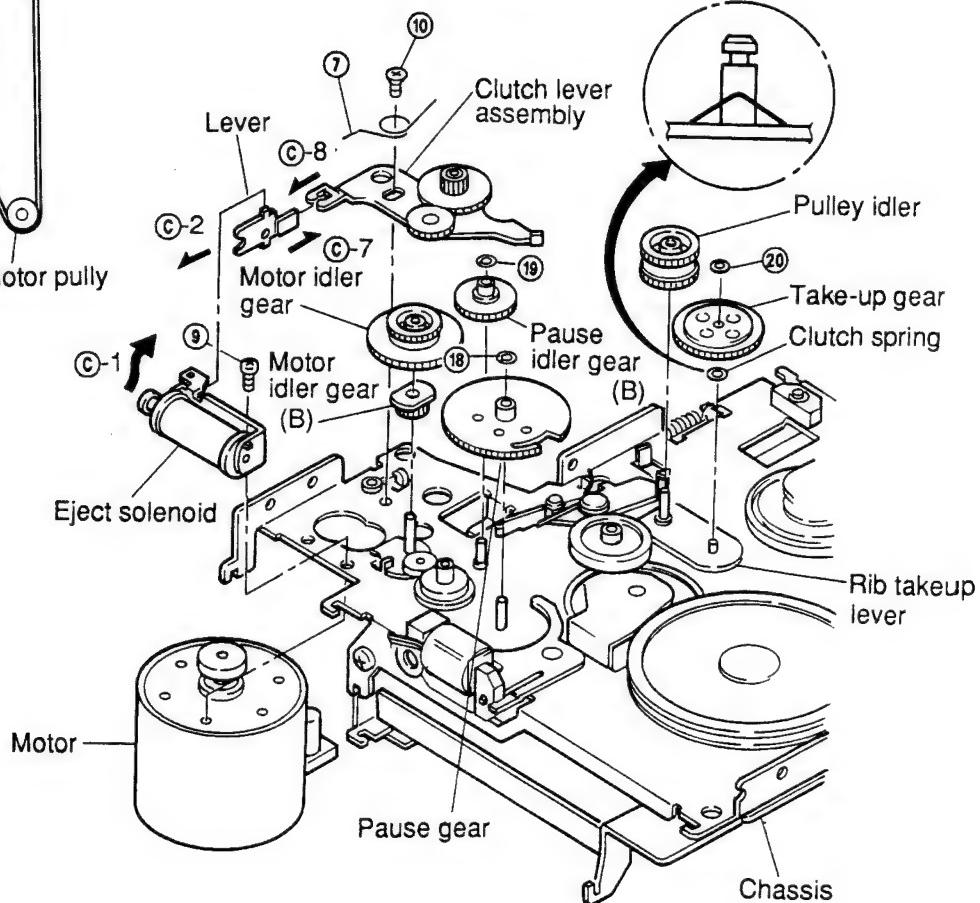

Figure 10
- (1) After removing the belt, remove spring ⑦ as shown in Figure 10.
- (3) Remove two screws ⑨ and ⑩, and remove the motor, taking care not to damage the motor idler gear. (Refer to Figure 10.)
- (4) Mount the new motor following the removal steps in the reverse order.
- (2) Remove screw ⑨ and remove the play solenoid as shown in Figure 10.
- (3) Align position ⑩-1 of the new solenoid with position ⑩-2 of the lever and fasten the screws as shown in Figure 10.
- (4) Lead the wire through the tube and solder it.
- (1) After removing the motor, remove the motor idler gear and the motor idler gear (B) and remove the clutch lever assembly as shown in Figure 10.
Note: When mounting the gears to the lever, apply grease (FLOIL 425A) to the position C-6 as shown in Figure 15. Align the position C-7 with the position C-8 and mount the clutch lever as shown in Figure 10.
- (1) Remove M1.2 lock washer (18) and remove the pause gear pulling it up from the stud of the chassis as shown in Figure 10.
- (2) Mount the new gear following the removal steps in the reverse order.
- (f-7) Replacement of the pause idler gear (B)
- (1) After removing the motor and the motor idler gear, remove M1.2 lock washer (19) and remove the gear by pulling it up from the stud of the chassis as shown in Figure 10.
- (2) Mount the new gear by following the removal steps in the reverse order.
- (1) After removing the belt and the pulley idler gear, remove M1.2 lock washer (20) by pulling it up from the stud of the rib take-up lever assembly as shown in Figure 10.
- (2) Remount the take-up gear following the removal steps in the reverse order.